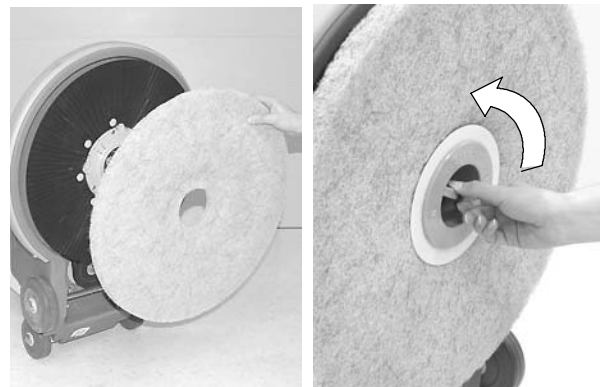

FIG. 2
3. To install the pad, remove the plastic centerlock ring from the pad driver by turning it counter-clockwise. Position the pad on the pad driver and replace centerlock ring by turning it counter-clockwise. Make sure the centerlock ring is fastened securely (Figure 2).